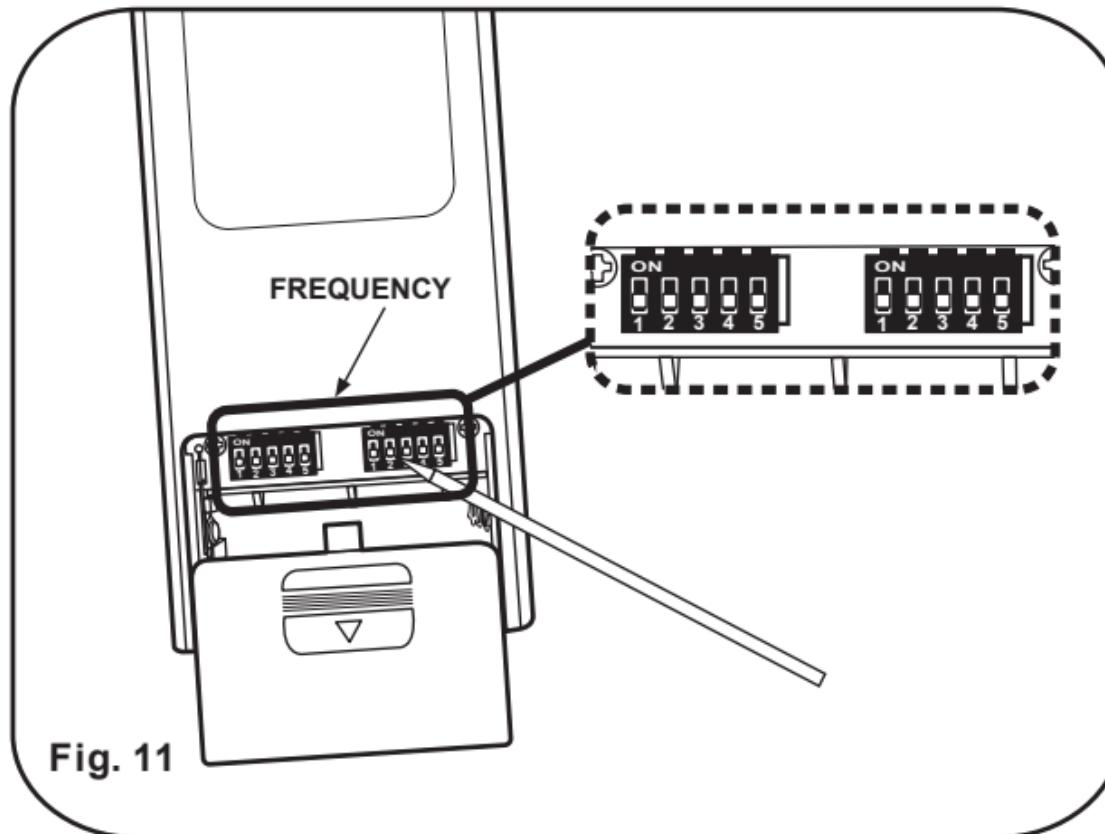

Fig. 11
**NOTE:** The Aire Control® System is equipped with a learning frequency function which has 1024 code combinations to prevent potential interference from other remote units. The frequency on your Receiver and Transmitter units have been preset at the factory. (Fig. 11) No frequency change is necessary, should you desire to install another fan within the same home or area with a separate frequency code please see the "frequency interference" troubleshooting section of this instruction manual to learn how to change the frequency.